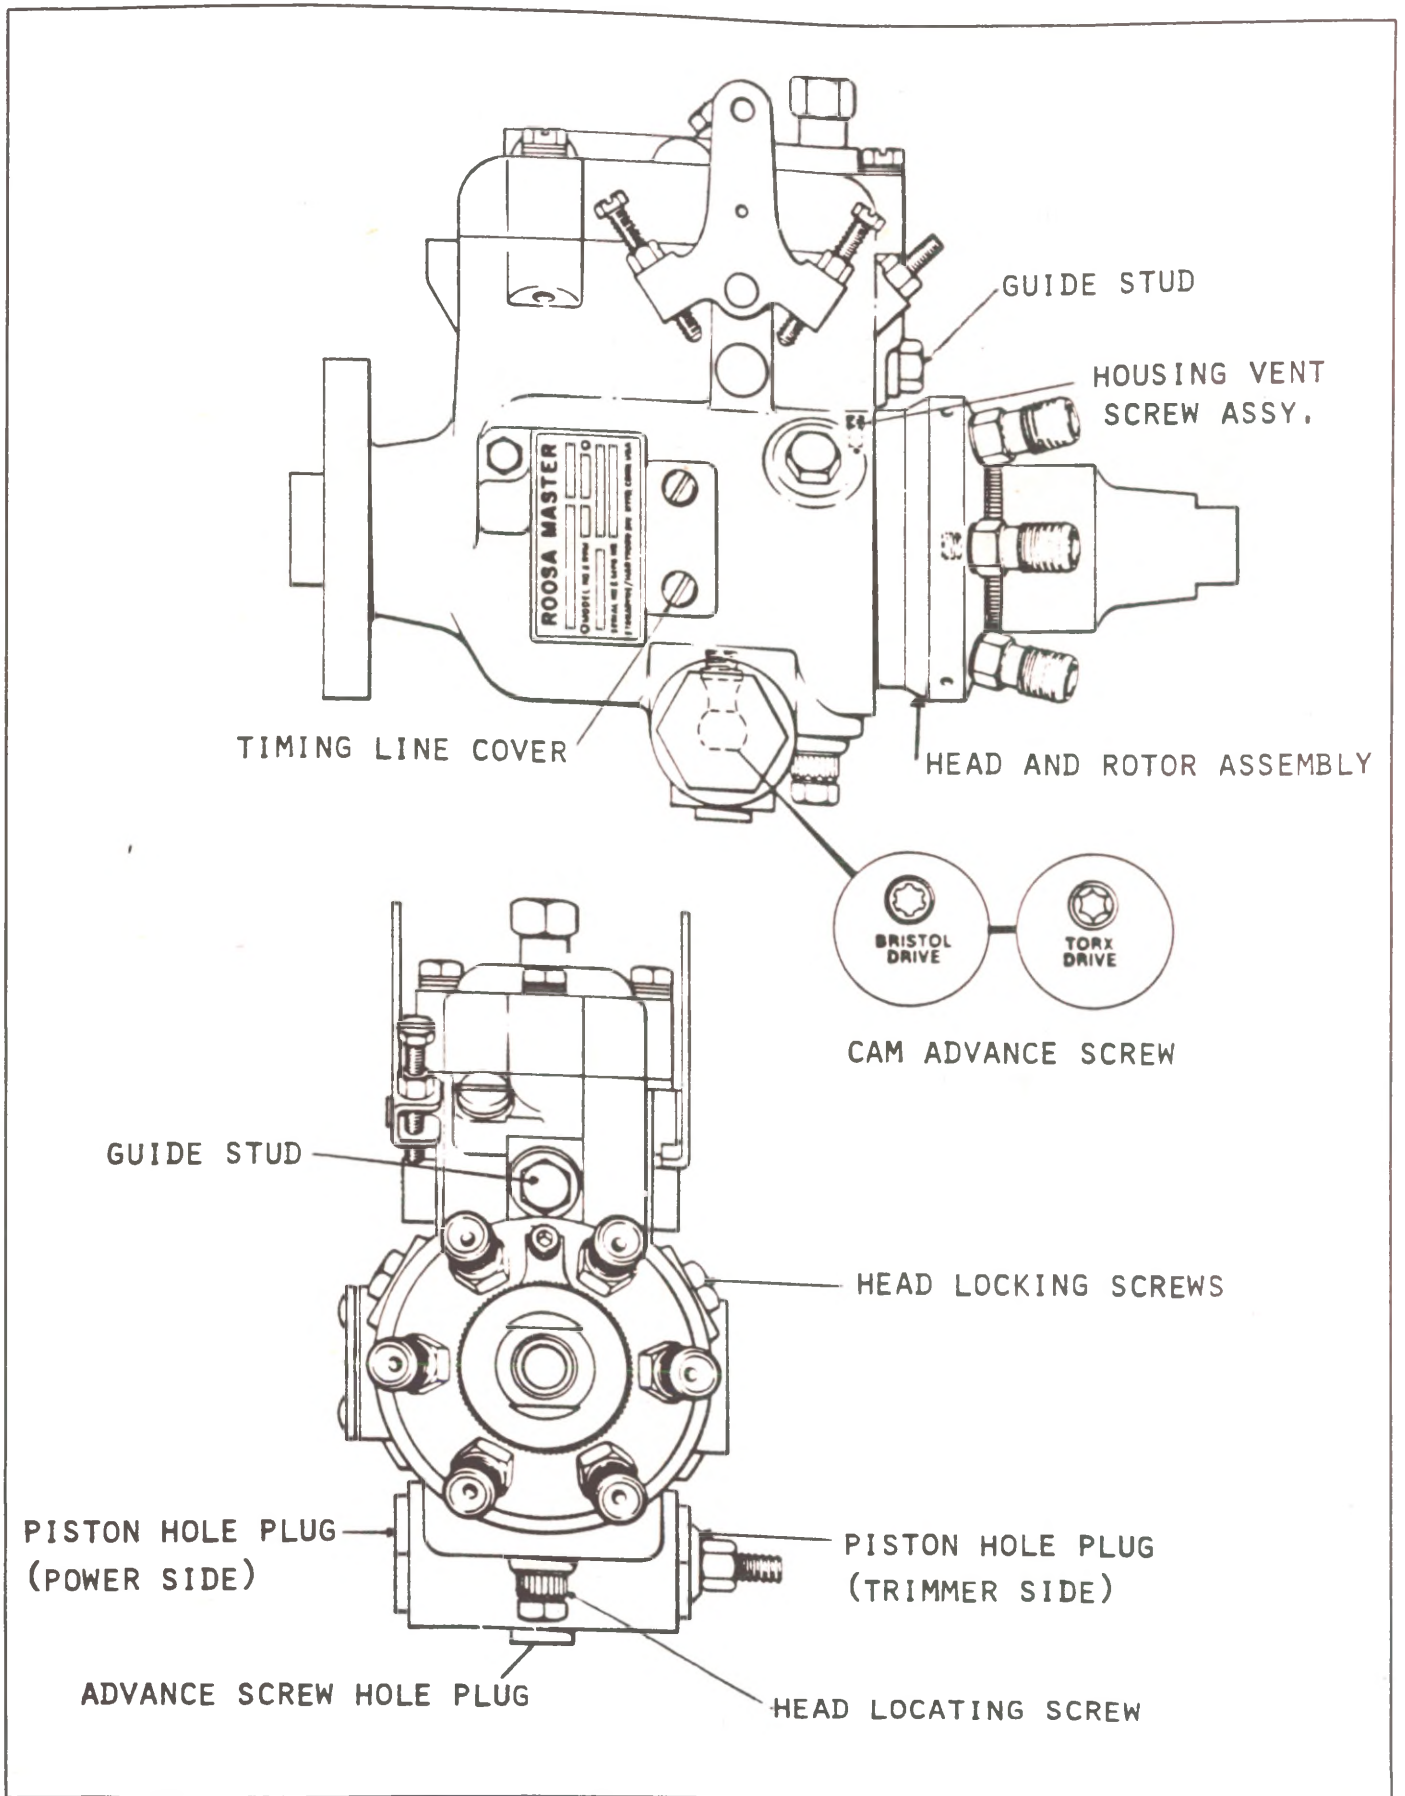

Fig. 3-14 Pump Components Locations.
Refer to Figure 3-14 as necessary for various pump component locations.
13. Install metering valve. Figure 3-14.